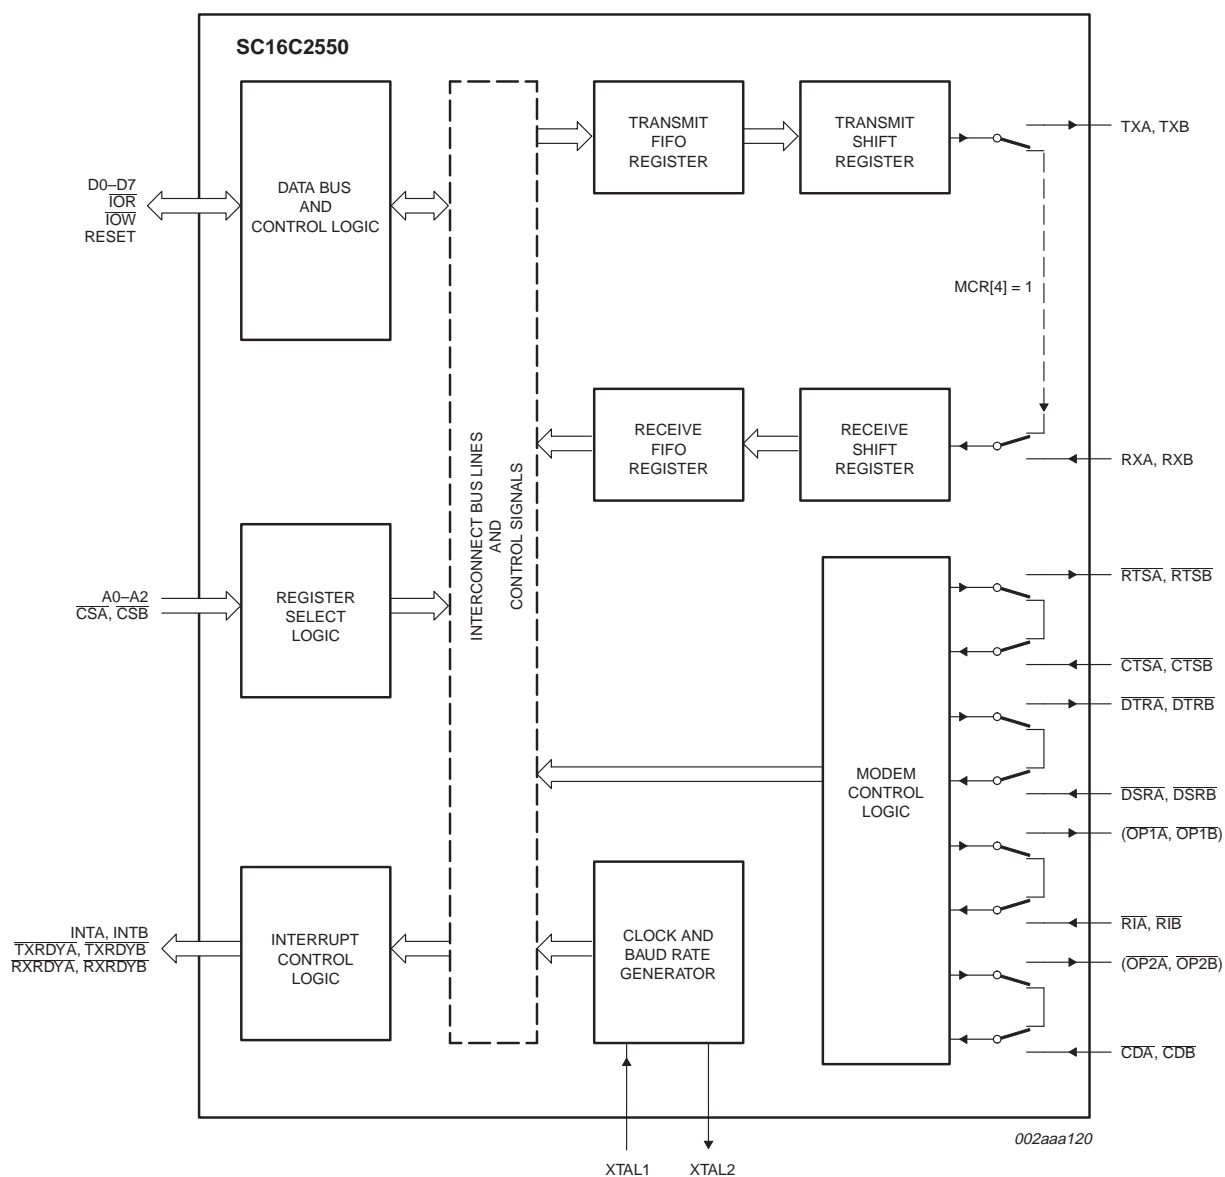

Fig 6. Internal loop-back mode diagram.
The internal loop-back capability allows on-board diagnostics. In the loop-back mode, the normal modem interface pins are disconnected and reconfigured for loop-back internally (see Figure 6). MCR[0-3] register bits are used for controlling loop-back diagnostic testing. In the loop-back mode, the transmitter output (TX) and the receiver input (RX) are disconnected from their associated interface pins, and instead are connected together internally. The CTS, DSR, CD, and RI are disconnected from their normal modem control inputs pins, and instead are connected internally to $\overline{\text{RTS}}$, $\overline{\text{DTR}}$, MCR[3] ($\overline{\text{OP2}}$) and MCR[2] ($\overline{\text{OP1}}$). Loop-back test data is entered into the transmit holding register via the user data bus interface, D0-D7. The transmit UART serializes the data and passes the serial data to the receive UART via the internal loop-back connection. The receive UART converts the serial data back into parallel